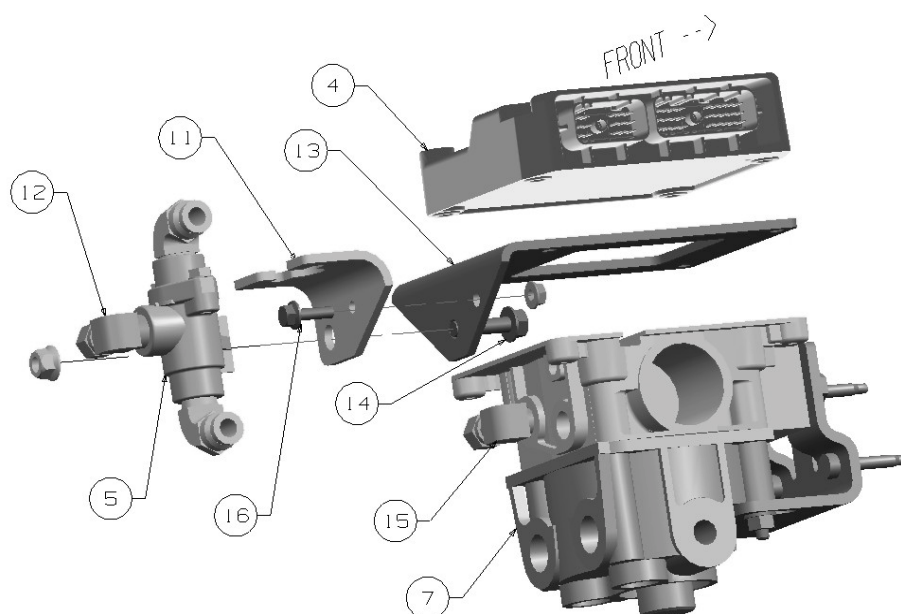

Figure 3: Exploded View of Valve Assembly With the Bracket Kit
Kit 8900083R91 (bracket kit): This is the new kit that is designed to replace the original kit as your inventory is depleted. This kit contains brackets and hardware designed to replace the subject fitting with a short flexible air line (Figures 3 & 4).
9. Install the 90-degree elbow (item 15, Figure 3) into the relay valve port that had the straight fitting and point the fitting straight rearward as shown in Figure 3. Apply an approved thread sealant to the fitting (**DO NOT USE TEFLON TAPE**).
10. Using an air line sleeve and compression fitting, attach one end of the new air line from the kit to the new 90-degree elbow on the relay valve (Figure 3, item 15).
13. Mount the small support bracket (Figure 3, item 11) to the double check valve, using the two new longer machine screws and plain washers in the kit. Hand tighten the machine screws enough to hold the double check valve on the small support bracket. Make sure the small support bracket is flush against the surface of the double check valve-mounting tab.
14. Mount the double check valve, with the small support bracket to the large bracket (Figure 3, item 13), as shown in Figures 3 and 4. Use the M8 bolt and nut to mount the double check valve and support bracket to the large bracket. Tighten the M8 hardware until it is snug. Take care to orient the small support bracket on the large bracket so the M6 bolt and nut can also be installed and tightened to a snug condition.
15. With all of the mounting hardware from steps 13 and 14 snug, begin to tighten the hardware in the following order. Torque the two double check valve machine screws to 100 Lbf-IN (11 NM), the M8 hardware (Figure 3, item 14) to 14 – 17 Lbf-FT (19.6-24 N-m), and the M6 hardware (Figure 3, item 16) to 72 – 96 Lbf-IN (8.7-10.7 N-m).
16. Install the double check valve elbows that were previously removed in step 11 and position them to point in a forward direction as shown in Figures 3 and 4. Use an approved thread sealant during installation (**DO NOT USE TEFLON TAPE**).
17. Remove and discard the straight fitting from the double check valve delivery port. Install the new 90-degree elbow, from the kit, onto the double check valve and position it to point towards the rear as shown in Figures 3 and 4. Apply an approved thread sealant to the fitting (**DO NOT USE TEFLON TAPE**).
18. Install the complete bracket assembly and ECU onto the top of the relay valve as shown in Figures 3 and 4. Tighten the four mounting bolts to 100 Lbf-IN (11.3 NM). **DO NOT USE AIR TOOLS.**